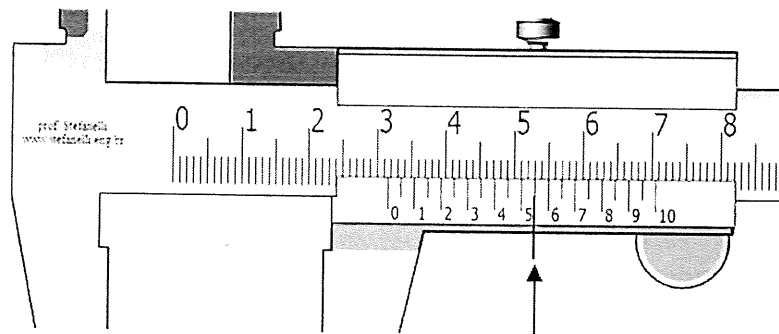

Figure 1
- a) **State** three (3) types of measuring process. (3 marks)
- c) With referring to Figure 1, **solve** for the final measurement reading of the vernier. (5 marks)